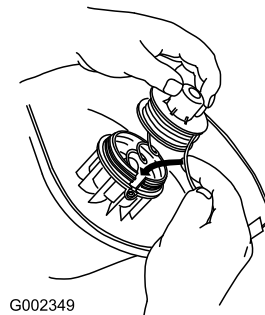

Figure 15
1. Holding the line and spool, insert the spool into the cutting head and the line into the eyelet (Figure 15).